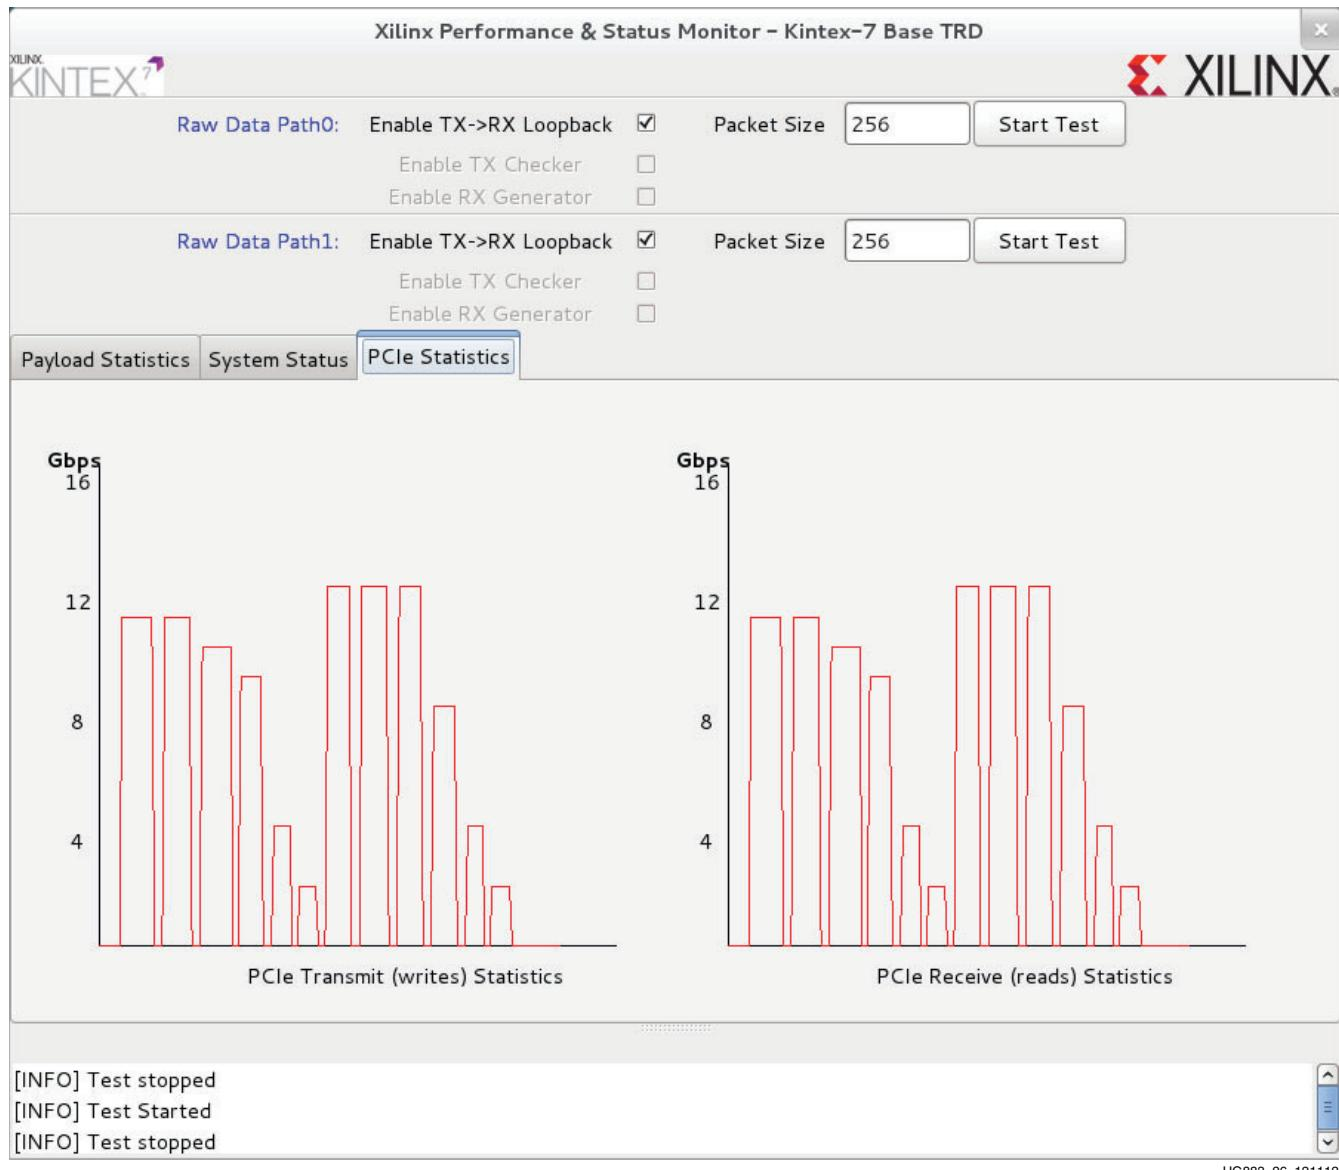

Figure 26: PCIe Statistics in the Performance Monitor
4. Click the **PCIe Statistics** tab to view data transfer numbers with varying packet sizes on the PCIe interface (Figure 26).